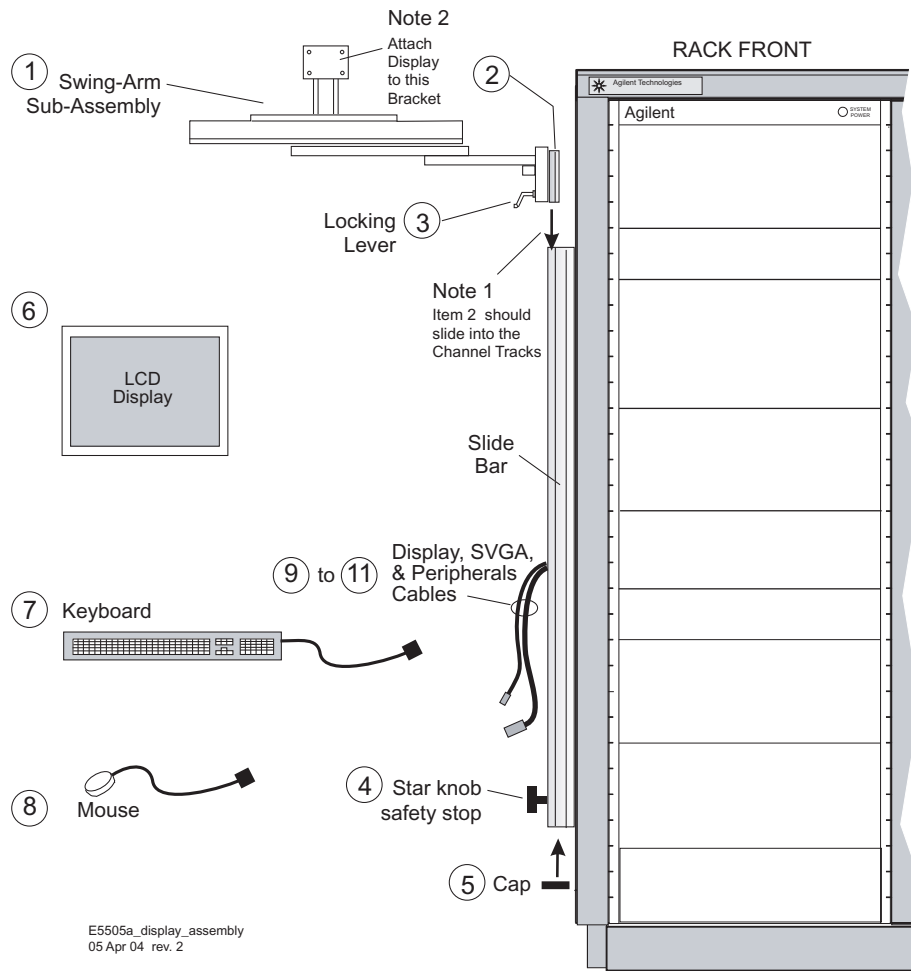

Figure 2 Display assembly installation
If you're setting up a rack-mounted system with a flat-panel display, installation includes mounting the display and peripherals on a swing arm assembly. Figure 2 on page 24 provides an overview. Table 8 lists the parts needed for connecting the display, keyboard, and mouse.
1 Loosely attach the two locking-lever bolts and three t-bolts to the swing arm assembly.	<ul style="list-style-type: none"> Refer to items 1, 2, and 3 in Figure 2 on page 24.
2 Slide the swing arm assembly into the slide bar (from either the top or bottom), making sure the t-bolts are in the channel tracks.	<ul style="list-style-type: none"> Refer to Note 1 in Figure 2 on page 24.
6 Use the four M4 x 0.7 bolts to attach the monitor to the bracket on the swing arm.	<ul style="list-style-type: none"> Refer to Note 2 in Figure 2.